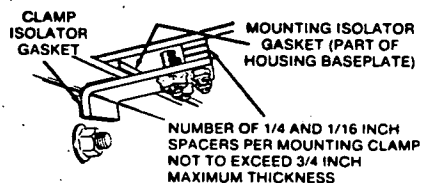

FIGURE 2. Spacer Assembly and Mounting Clamps
1. When clamping the generator set to the truck frame rails, be sure the proper number and size shims are used on all four mounting clamps. See Figure 2.